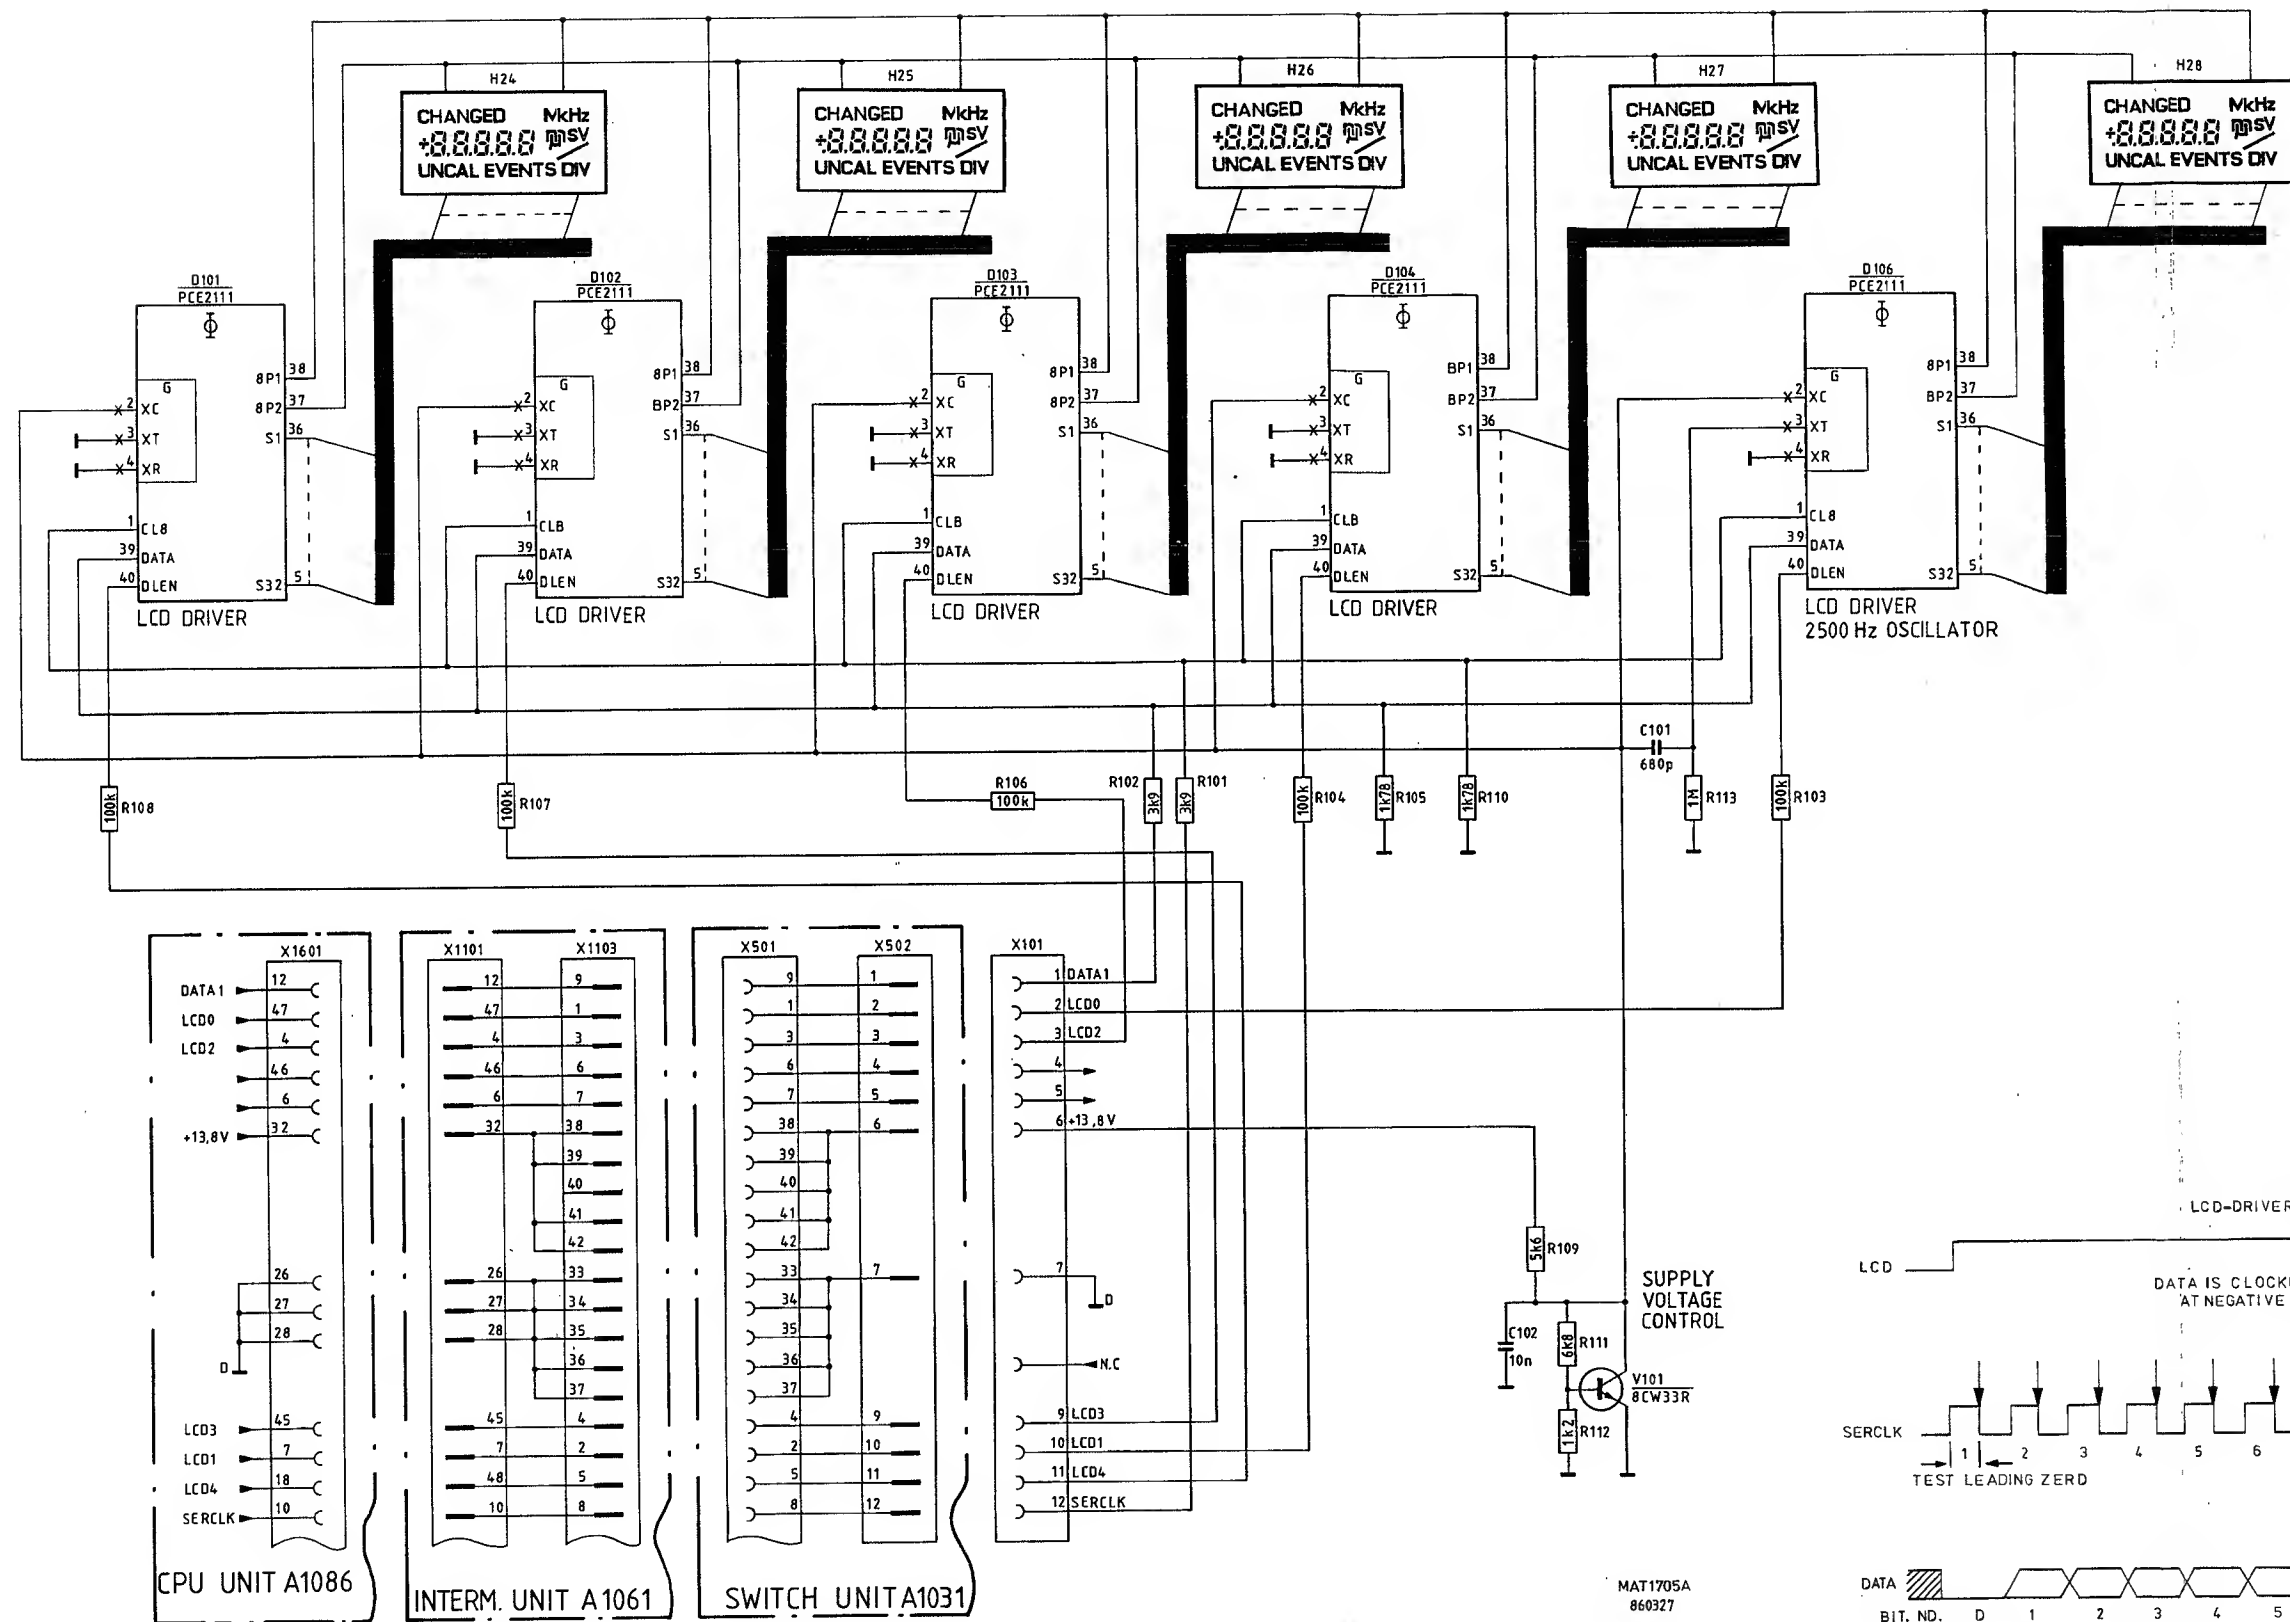

Fig.4.2. LCD-unit, circuit diagram.
4. CIRCUIT DESCRIPTION OF LCD UNIT (see fig. 4.2.)